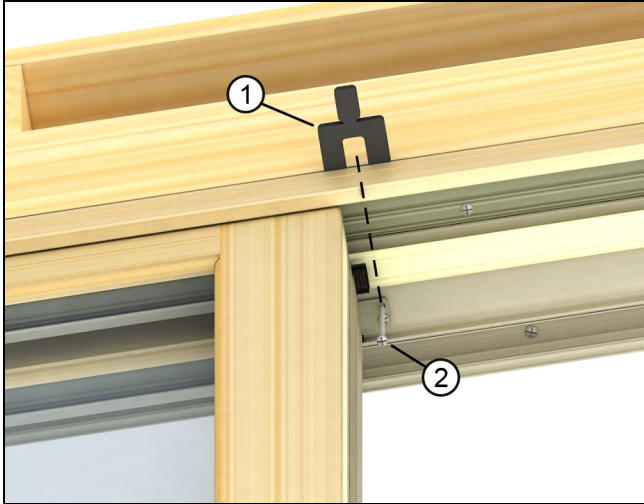

Figure 4
1. Using the general door installation instructions, square and plumb the door in the opening. Then shim between the rough opening header and the unit head jamb within 1"-2" (25-51) of the top stationary panel bracket(s). Check the head jamb to be sure it is not bowed up or down. See Figure 4.